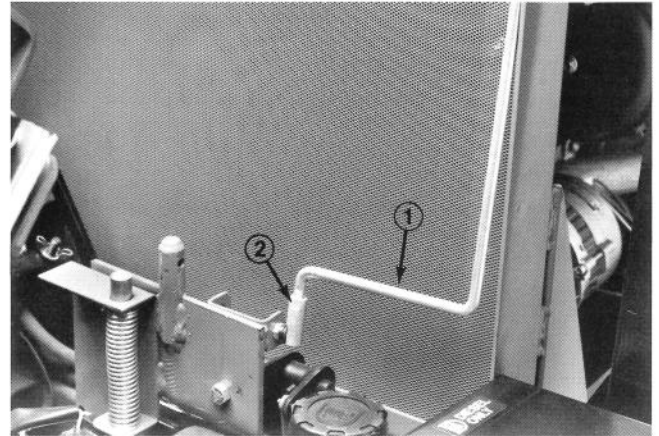

Figure 10
9. Install seat support rod to seat support bracket with jam nut (Fig. 10).
7. Install seat support rod to seat support bracket with jam nut (Fig. 10).